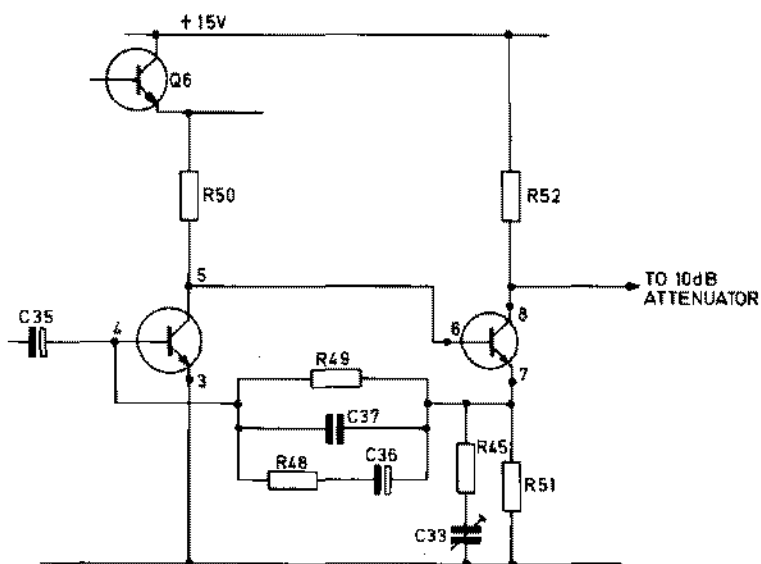

Fig. 5.2 Third Stage Amplifier Circuit
- 5.3.1.6.3 The circuit of the third amplifier stage is shown in fig. 5.2. The other stages are of similar form, but do not contain frequency response adjustment circuits such as C36, R48, R45 and C33.